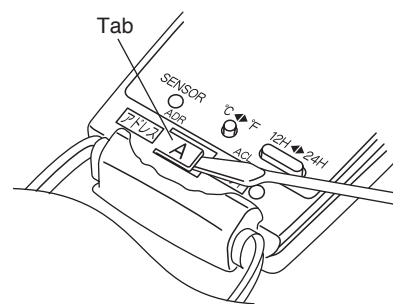
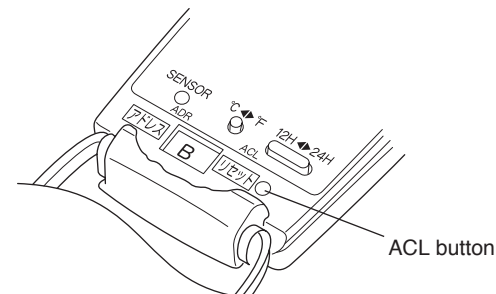

Fig. 13
Fig. 14
- (1) Switch on the power source.
- (2) Break the address-setting tab marked "A" on the second remote controller to change the address (Fig. 13). When the tab is removed, the address is automatically set to B (Fig. 14).
- (3) Press and hold the remote controller ION button and 1 HR TIMER button. Then, press and hold the ACL (reset) button with a pointed object such as the tip of a pen. After 5 seconds, release ACL button first, then release ION and 1 HR TIMER buttons, "oP-1" (test run) appears, blinking in the remote controller clock display area.